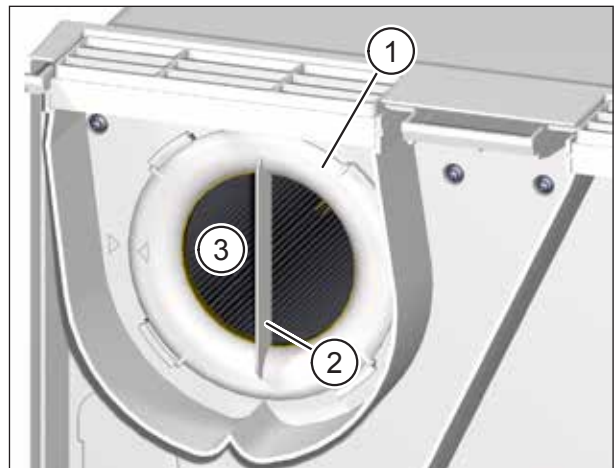

Fig. 15: Removing the extract air filter
- ▶ Turn the filter ring (item 1 in Fig. 15) using the hand grip (item 2 in Fig. 15) anti-clockwise until the filter ring is released from the retainers.
- ▶ Pull the filter ring together with the extract air filter (item 3 in Fig. 15) out of the ventilation unit.
- ▶ Check the position of the filter ring. The hand grip must be vertical and the arrow on the filter ring must line up with the arrow for the locking position (see Fig. 15 on page 31).